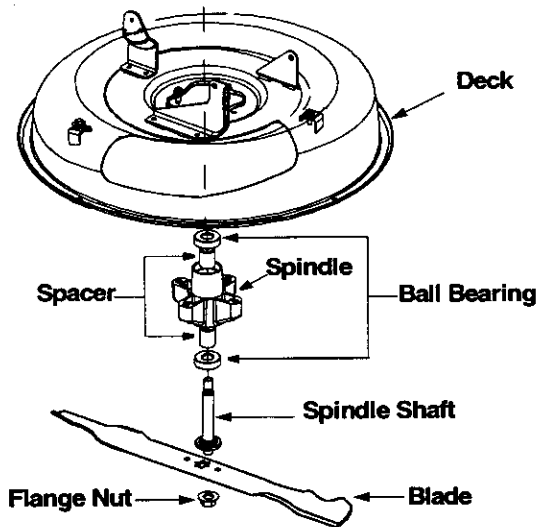

Figure 11
4. Remove blade from the spindle. See Figure 11.
NOTE: When replacing the blade, be sure to install the blade with the side marked "Bottom" (or with part number) facing the ground when the mower is in the operating position. Also make sure that the entire blade and spindle assembly is reattached in the right order. See Figure 11.